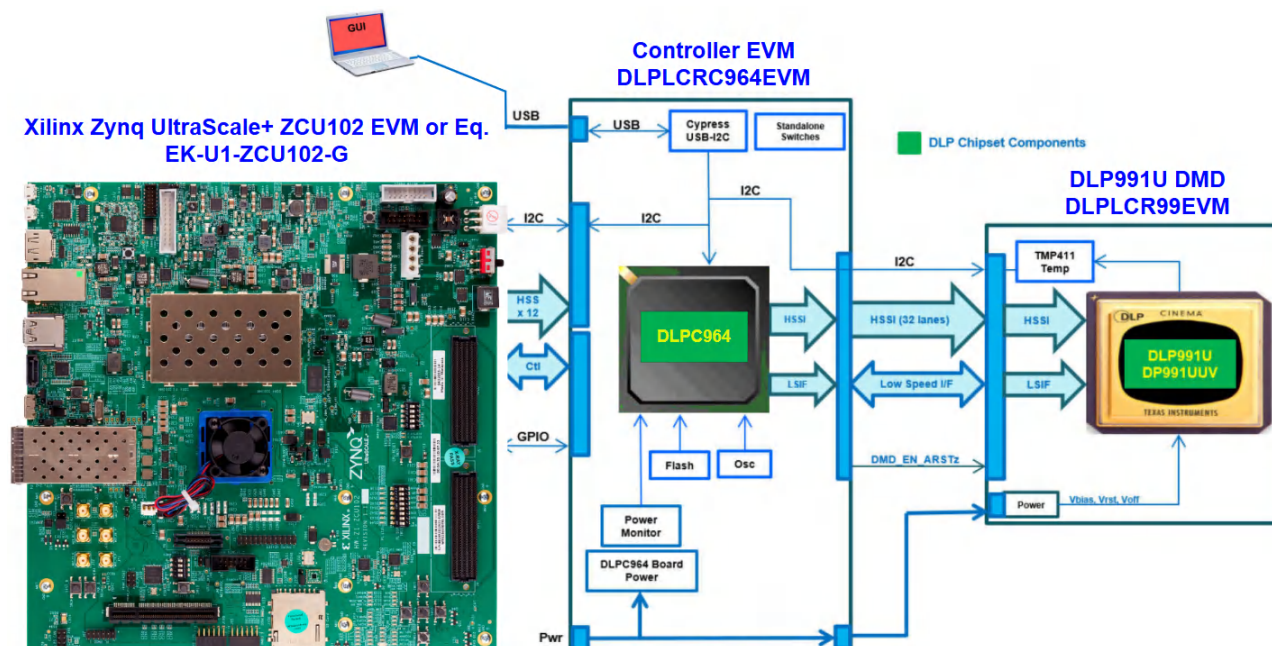

Figure 5-1. Apps FPGA Hardware Target
The Apps FPGA reference code is targeted to the AMD Xilinx Zynq UltraScale+ FPGA housed on an AMD Xilinx ZCU102 Evaluation Board. Figure 5-1 shows how the ZCU102 Evaluation Board connects to the Texas Instruments (TI) DLPC964 Evaluation Module (DLPLCRC964EVM), which connects to the DLPLCR99EVM or DLPLCR99UVEVM.